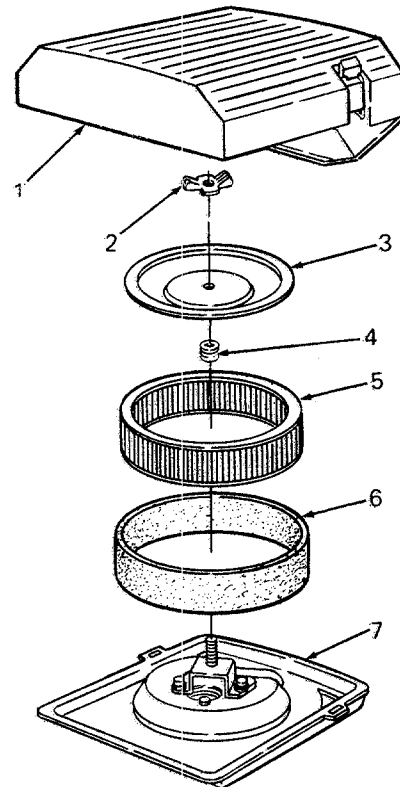

Figure 34. Air Cleaner Assembly
1. Unhook latches and remove air cleaner cover. (See Figure 34.)